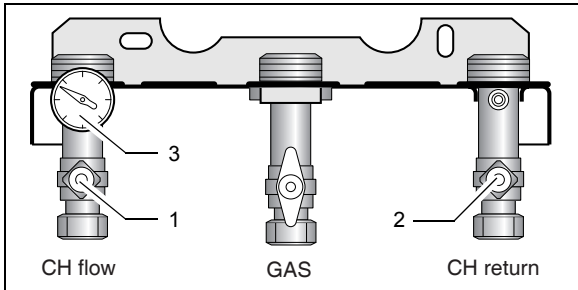

fig. 4 Servicing valves
- Check the pressure gauge (fig. 4, item 3) located at the bottom of the boiler for the current system pressure. Optimum system pressure is 1.5 bar.
- If necessary open the CH flow and CH return servicing valves (fig. 4, item 1 and 2).
- Fill the system to a pressure of approx. 1.5 bar (fig. 4, item 3).